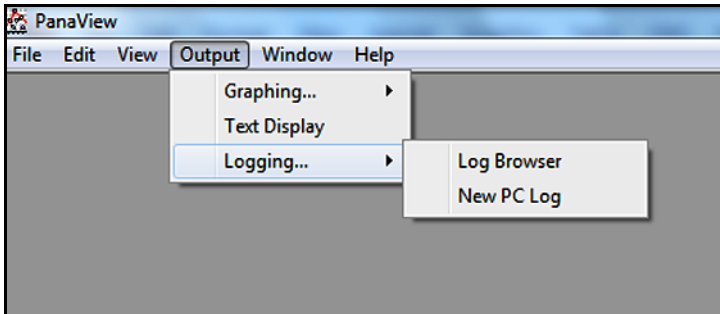

Figure 69: Selections in the Logging Option
1. Open the “*Output*” menu (see *Figure 51 on page 72*), and click on the “*Logging*” option to open the window shown in *Figure 69* below.